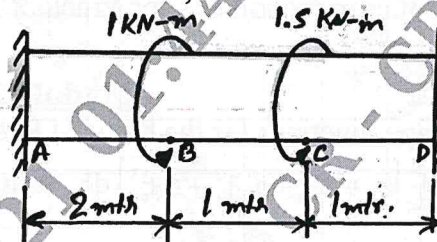

Fig Q6(b)
b. A Bar of circular cross section having a diameter of 50mm is fixed at both ends and subjected to a torque at B and C as shown in Fig Q6(b). Determine maximum angle of twist and shear stresses. Take  $G = 7 \times 10^4\text{N/mm}^2$ ,  $E = 2 \times 10^5\text{N/mm}^2$ .